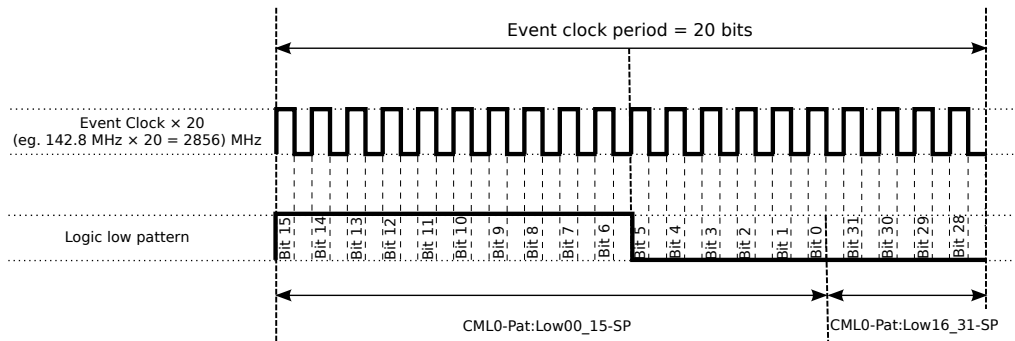

Figure 4: Generate the event clock
Signals with frequency greater or equal to the frequency of the event clock can only be generated using the CML outputs. More about the operation of the CML outputs and their modes is available in the EVR manual [7]. Note, that not all event receiver form factors have CML outputs. The EVR-VME-230RF form factor has outputs FrontOut4 (CML0), FrontOut5 (CML1) and FrontOut6 (CML2) capable of CML output. This tutorial demonstrates how to configure CML0 output (corresponds to FrontOut4 output) to generate a clock signal, that has the same phase and frequency as the event clock. To achieve this, the FrontOut4 output source is set to **logic low** and the CML outputs are enabled. This causes the logic low pattern of the CML pulse mode to be continuously outputted. The configurable pattern, as seen in Figure 4, is 20 bits long and is sent out with a bit rate of 20 times the event clock rate. It is configured to replicate the event clock phase and frequency.
- `CML0-Pat:Low00_15-SP=0xFFC0`: Set logic low pattern bits 0-15. The Figure 4 shows that the bits 15-0 must be set as follows: 1111 1111 1100 0000, which translates to 0xFFC0. Each bit represents 1/20 of the event clock period.
- `CML0-Pat:Low16_31-SP=0`: Set signal low pattern bits 16-31, as seen in Figure 4. Note, that only bits 31-28 (top 4 bits) can be used.